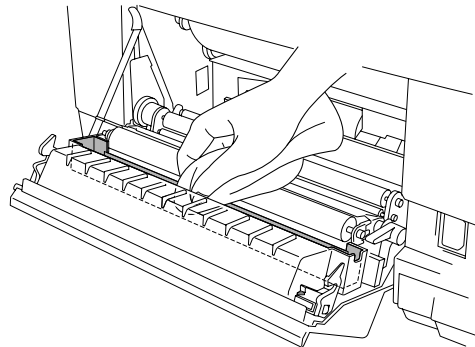

Fig.6-23
- 2) Clean the area where the paper discharger unit is mounted. (Fig.6-23)